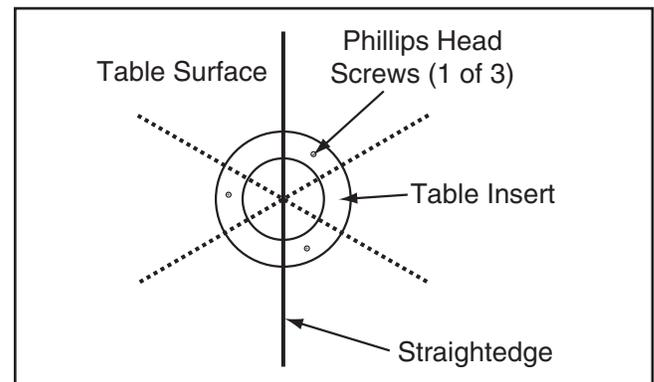

Figure 13. Straightedge and surface pattern.
2. Lay straightedge across semi-permanent insert and table surface in pattern shown in **Figure 13**.